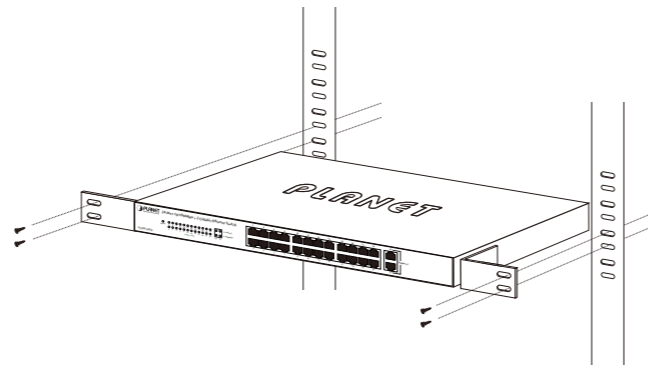

Figure 4: Mount the Fast Ethernet Switch in a Rack
Step 5: After the brackets are attached to the Fast Ethernet Switch, use suitable screws to securely attach the brackets to the rack, as shown in Figure 4.